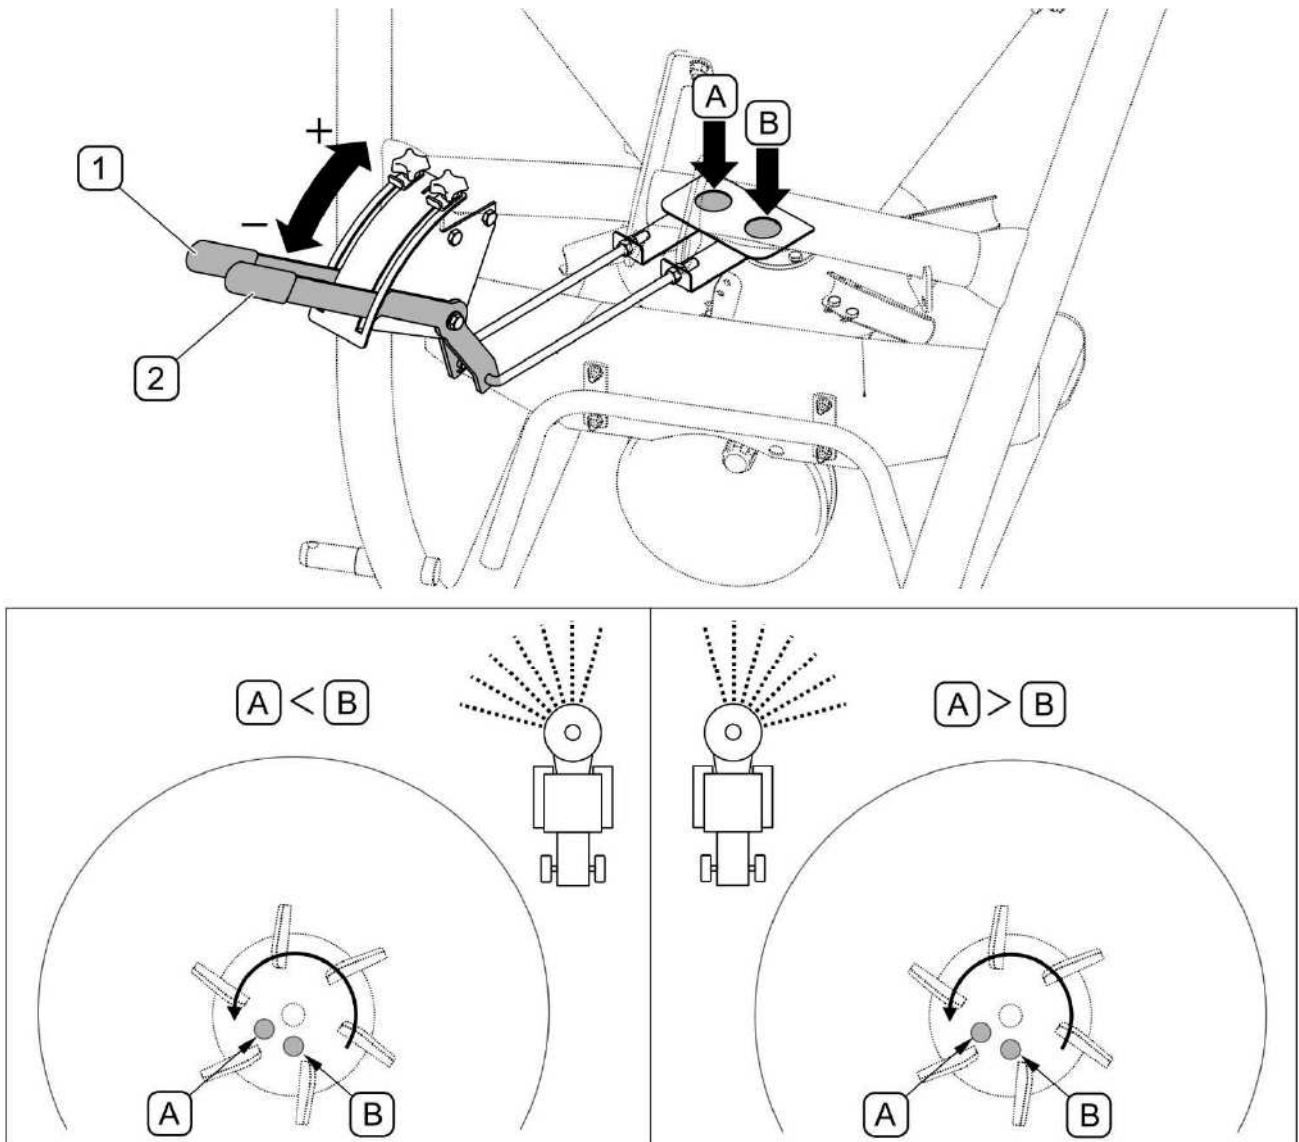

FIG. 4.5 Changing fertilizer dose and spreading direction in fertilizer spreaders with spreading disc rotating to the left
Fertilizer dose is changed by means of levers (1) and (2), which change the position of dampers, via links, with regard to dosing holes (A) and (B). Dosing hole (A) is adjusted by means of lever (1), while dosing hole (B) is adjusted by means of lever (2). When lever (1) or (2) is shifted in „+” direction (*towards the tank*) (FIG. 4.4), the dampers are open and fertilizer dose is increased. When the adjustment levers are shifted to the extreme position „-”, the dampers of dosing holes are completely closed. Depending on intersecting axis gear, spreading disc can rotate to the right (FIG. 4.4) or to the left (FIG. 4.5). Rotation direction of spreading disc should be determined earlier.
In the fertilizer spreaders with spreading disc rotating to the left (FIG. 4.5), larger right-sided spreading (*looking in the direction of tractor travel*) is achieved by increasing dosing hole (B) and decreasing dosing hole (A). Left-sided spreading is achieved by larger opening of hole (A) with regard to hole (B) (FIG. 4.5)